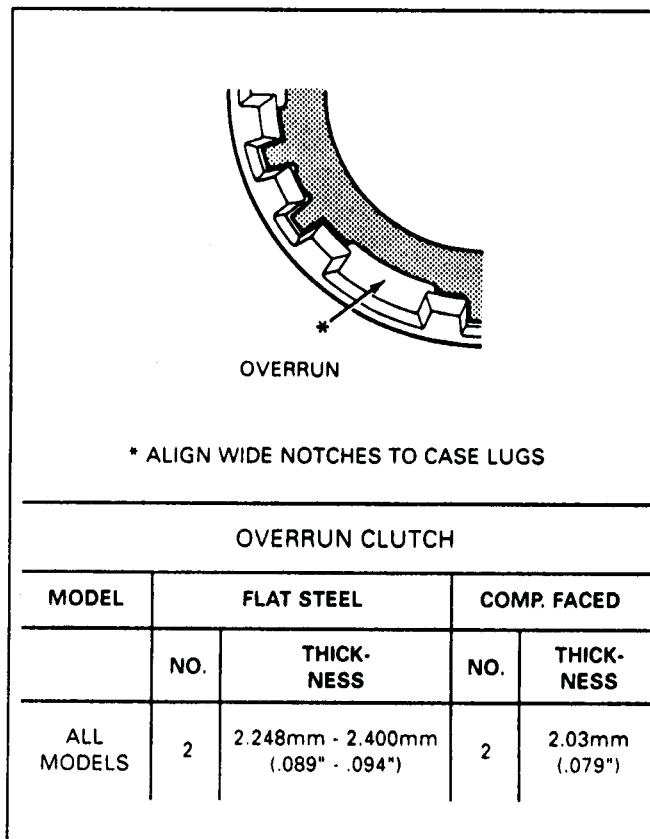

Figure 93
3. Make sure the the teeth on the plate are between the legs on the piston. (See Figure 93).
5. This clutch pack requires two steel plates and two friction plates on all models as shown in chart (Figure 93).